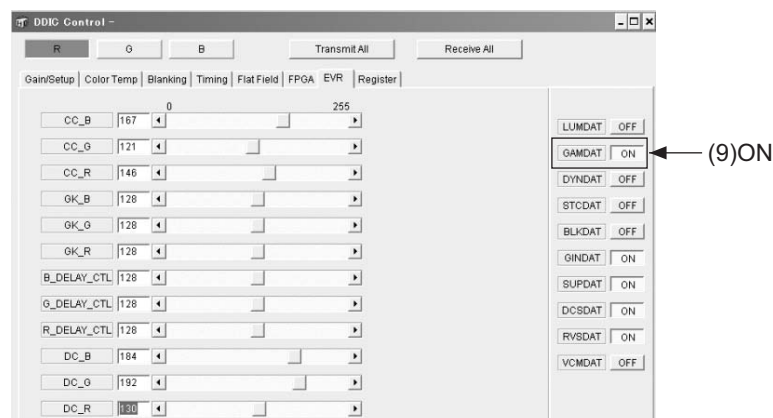

Fig.3
- (9) Click [DDIC] in the SPA menu and set [GAMDAT] to [ON] as shown in Fig.3. Refer to Fig.3.